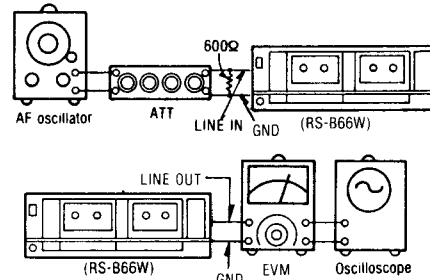

Fig. 17
1. Test equipment connection is shown in fig. 17.
8. Repeat from step (2).
1. Make connections as shown in fig. 17.